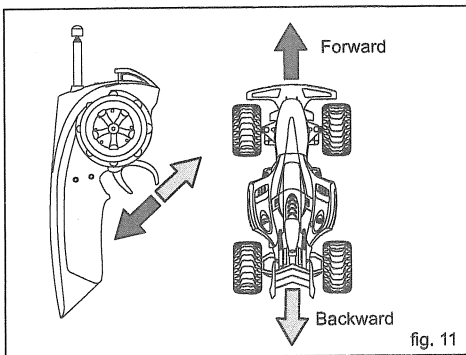

fig. 11
5. Pull throttle control (trigger) to drive the vehicle forward and lift the throttle control to drive in backward (fig. 11).